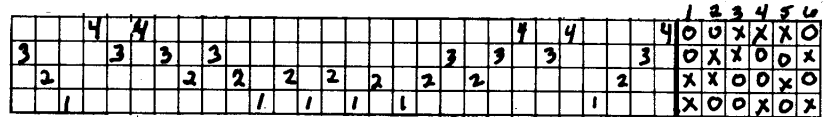
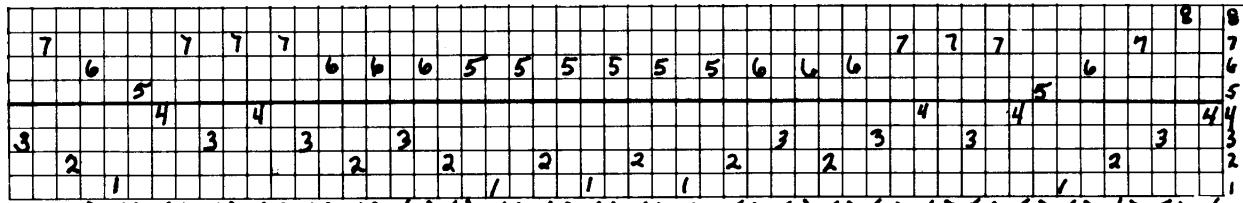

Figure 1. Draft for weft overshoot.
Figure 4. Draft for pattern in both warp and weft direction. \frown = sleyed together
Let us first consider the draft of a simple overshoot—the time-honored honeysuckle pattern chosen for its familiarity to many of us. (Fig. 1) From this we will derive the use of the overshoot in the warp direction. Note that the treadling is that which is known as written as drawn in—any of the many other treadlings could have been chosen. If you wish a discussion on woven as drawn in or “trompe as writ” may I refer you to Tidball, Atwater, Thorpe, Frey or Zielinsky (see bibliography).
3. We are using the threading of our previous draft for weft pattern overshoot as the treadling now. See figure 3c and compare it to the weft pattern overshoot threading in figure 1. 4. For the tie-up: a) turn the tie-up on its side crosswise (Fig. 3a), b) change all x's to o's and o's to x's (Fig. 3b)—remember that o is jack or rising shed and x is counterbalance or falling shed. A 4 treadle weave is obtained.
The threading (Fig. 4): one threads each type of pattern alternately—first on the first four harnesses (the first thread of our weft overshoot), then on our second four harnesses (the first thread of our warp pattern) and so on. Notice that these are the same threadings put together that I showed previously in figures 1 and 2.